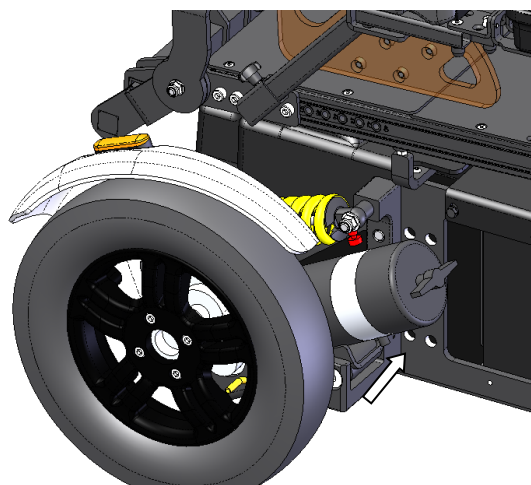

Figure 11 : motorization position adjustment.
- remove the 2 nuts from the drive system and place it in the appropriate position according to the seat depth (see Table 1) (see Figure 11).